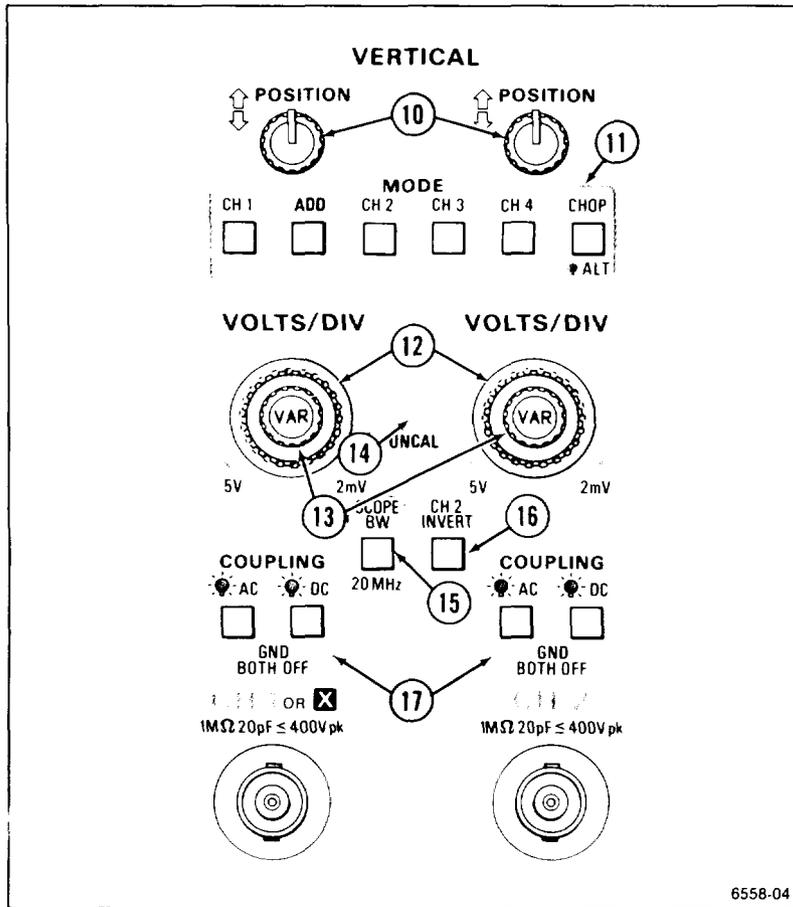

Figure 2-2. CH 1 and CH 2 vertical controls and indicators.
Refer to Figure 2-2 for location of items 10 through 17.
- ⑩ CH 1 and CH 2 POSITION Controls—Adjust vertical position of the Channel 1 and Channel 2 waveform displays.
- ⑪ MODE Buttons—Select the vertical channels for display (CH 1, ADD channels 1 and 2, CH 2, CH 3, and CH 4). The CHOP/ALT MODE button selects method for switching input channels on the display (chopped or alternating).